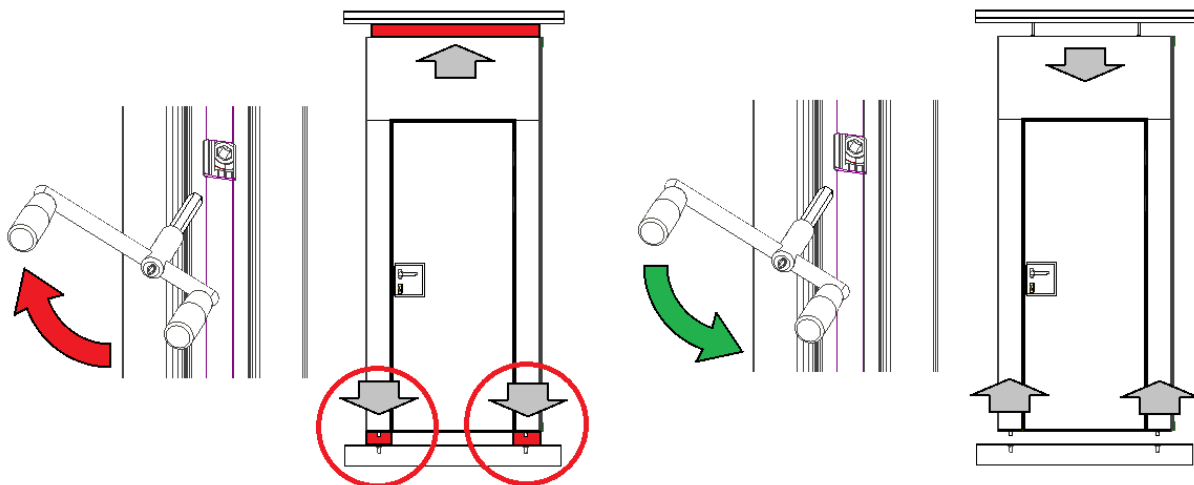

Fig.10. Locking (from the left) and unlocking (from the right) the door panel
3. Repeat the steps from point 2 for **the door panel (4)** keeping the above comments (Fig.10)
6. Repeat steps 4-5 for **the door panel (4) (Fig.10)**